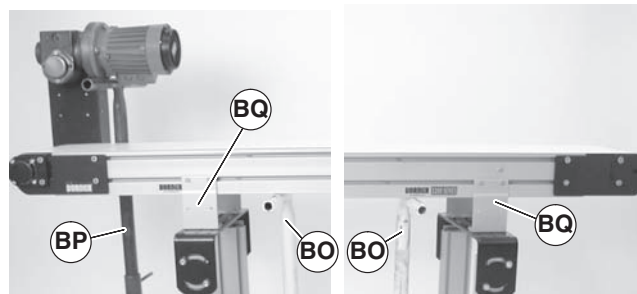

Figure 37
1. Place temporary support stands (Figure 37, item BO) at both ends of the conveyor. See WARNING.
4. Remove first mounting brackets (Figure 37, item BQ) from one side of conveyor. (Reverse steps 3 & 4 of “Mounting Brackets” section on page 9).
1. Ensure temporary support stands (Figure 37, item BO) are placed at both ends of the conveyor. See WARNING.